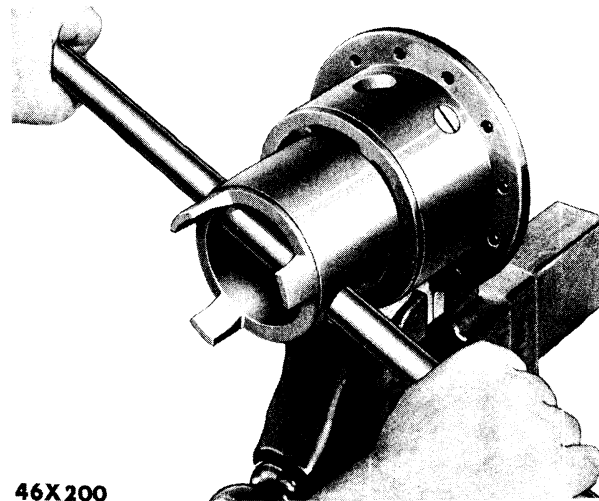

Fig. 22—Removing Differential Case Cap, Using Tool DD-921
When the case is just hot enough to melt soft solder loosen cap with a blunt drift and a heavy hammer and quickly unscrew the cap from the case, with Tool DD-921, as shown in Figure 22. The parts can now be immersed in oil to cool for subsequent handling.
- (7) Lock the three pinion shafts in the case (by installing three new locking pins in the holes) and peen over.
- (8) Clamp the completed assembly in vise and heat the outside surface of the threaded portion of the case with a torch flame, as in the disassembly procedure.
- (9) Dip the threaded portion of the cap in gear oil. Assemble the thrust washer and the differential side gear in the cap, and screw into the differential case with wrench Tool DD-921, as shown in Figure 22. Tighten securely in position with a blunt drift and hammer.